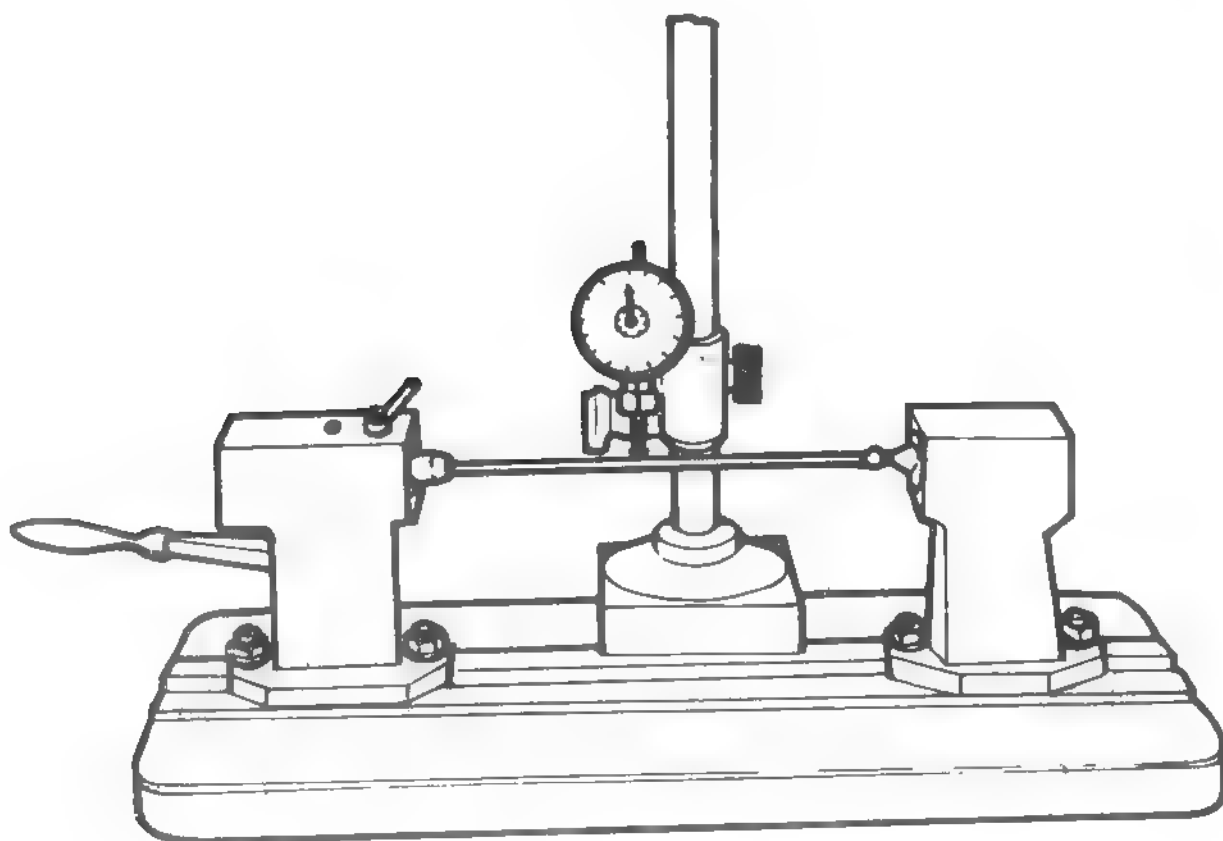

Fig. 4.50. CHECKING PUSH RODS.
- Check runout of push rods by means of comparator (see Fig. 4.50).